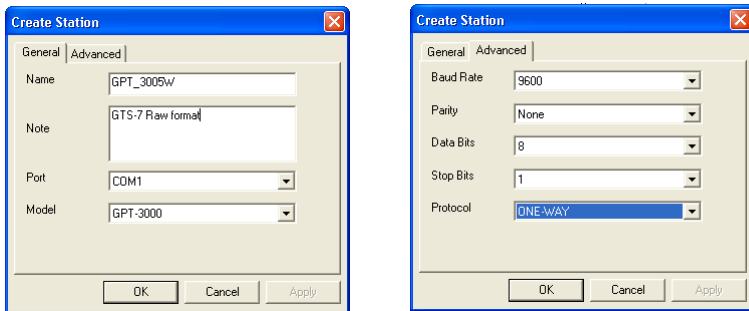

Figure 2-20. Total Station Properties
- In the *Advanced* tab of the **Create Station** dialog box, enter the baud rate, parity, data bits, stop bits, and protocol used for communication with the TS (Figure 2-20).